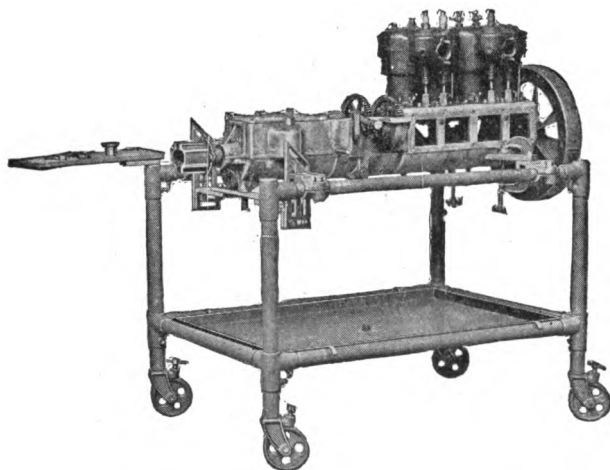

Fig. 10. Handy Form of Engine Stand Constructed from Piping
*Portable Engine Stands.* If the engine is removed from the chassis, the first thing needed is a suitable engine stand. One of these is shown in Fig. 10, a form that can be purchased at a reasonable price, and which possesses many excellent features. The frame is made